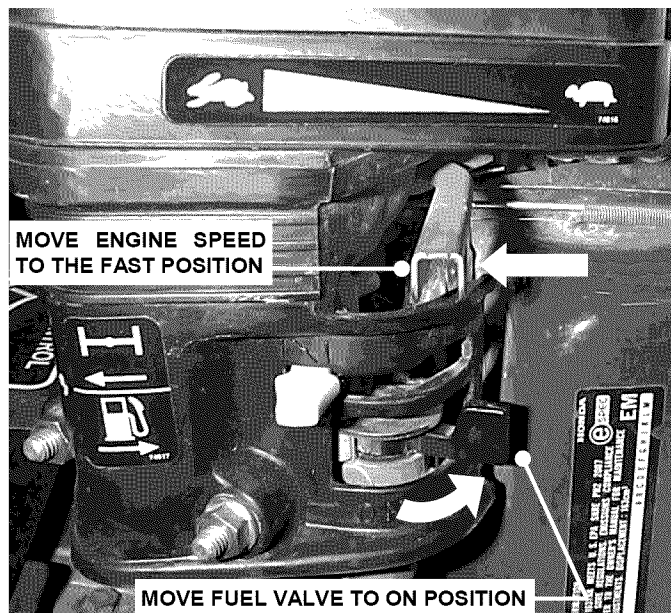

FIGURE 6A
Step 3: Honda Engine - Move ENGINE SPEED CONTROL to FAST (rabbit) position and move FUEL VALVE forward to ON position. See Figure 6A. ENGINE KILL SWITCH must be in ON position. See Figure 5A.